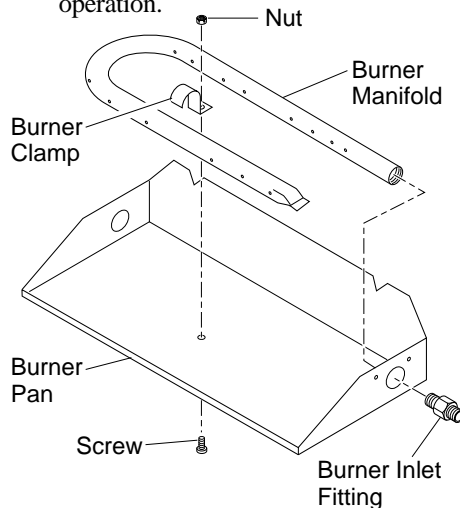

Figure 9 - Installing Burner
3. Unscrew burner inlet fitting from burner manifold (see Figure 9).